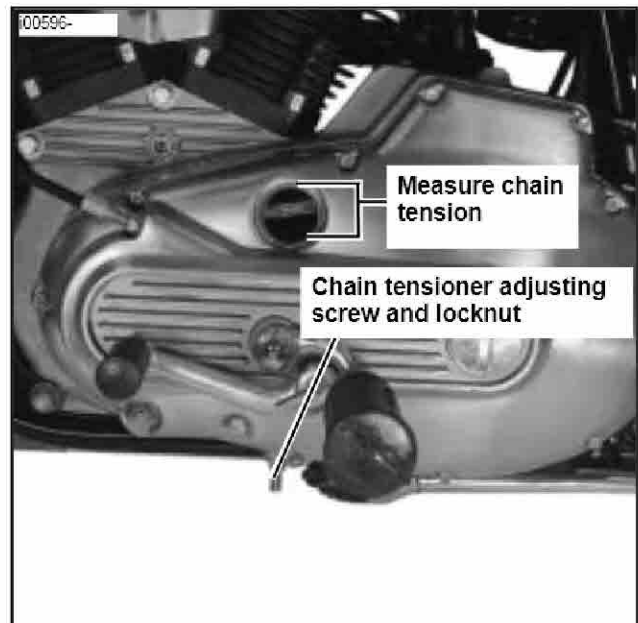

Figure 3. Chain Installation
3. See Figure 3. Loosen the adjusting screw locknut and turn the adjusting screw IN to reduce free play or OUT to increase free play.